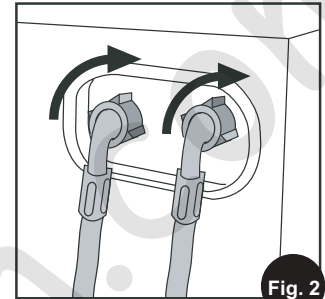

Fig. 2
- Connect the 90° angled ends (20 mm thread) of these hoses to the inlet valves on the back of the machine (Fig. 2). **NOTE:** Water Inlet valves are color coded: Red (Hot) & White (Cold).
90° angled ends of these hoses to the inlet valves on the back of the machine (Fig. 2). **NOTE:** When the machine is connected to a single faucet, the water temp. for the wash/rinse settings is regulated by the temperature YOU set at the faucet.